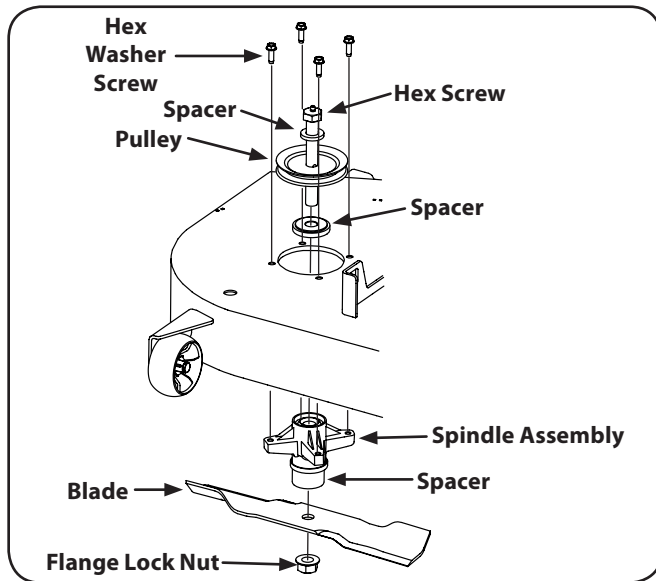

Figure 7-13
3. Use a $\frac{3}{4}$ " wrench to hold the hex nut on top of the spindle assembly when loosening the hex nut securing the blade. A block of wood may be placed between the deck housing and the cutting edge of the blade to help in breaking loose the hex nut securing the blade. See Figure 7-13.
4. Using a wrench or socket ratchet remove four hex washer screws. Remove the spindle assembly. See Figure 7-13.